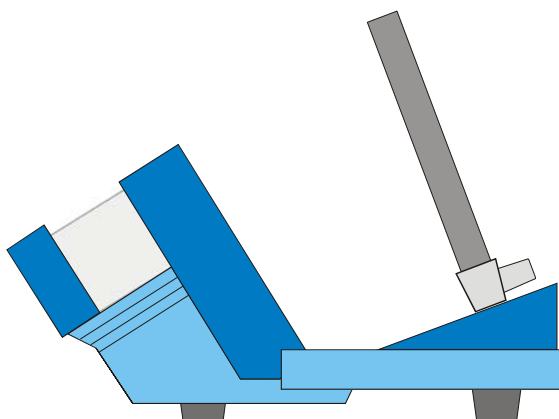

Fig. 3a Setting up a coil for an axial field
- When using both coils, attach the base of the second coil to the plug of the first coil (refer to Fig. 3a).